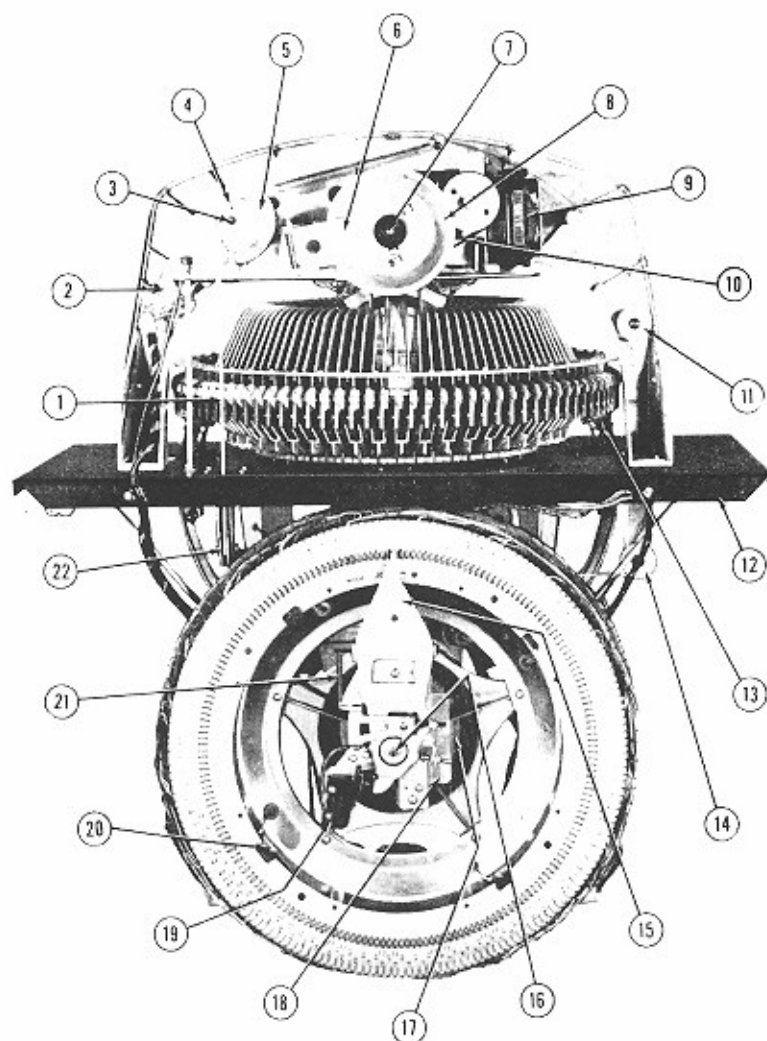

Fig. 45. MODEL 2000 RECORD CHANGER (REAR VIEW)
(5) Turntable Motor and Mounting Bracket Assembly (Fig. 45).
The turntable motor and mounting bracket assembly is mounted on the left rear of the top support casting assembly (Fig. 45). The motor operates on 115 volt, 60 cycle current. Power is supplied to the turntable motor when over-ride relay No. 2
The record clamp, lever and bracket assembly is mounted on the right of the back plate of the top support casting. The record clamp lever is pivoted on its mounting bracket to transfer action of the record clamp cam to the sliding shaft which operates the record clamps (Fig. 45). The record clamp cam, in turn, is actuated by the pulley and cable which is connected to the record clamp lever, operated by the main cam.
A plastic guide pulley and bracket assembly is mounted at the rear left side of the support casting (Fig. 45) to guide the cable linked to the tone arm brush assembly and the actuating arm of the transfer switch.
The chassis mounting plate is the supporting member of the record changer. The following items are considered integral parts of the chassis mounting plate; reinforcement plates, spring cups, hold-down clamps, and left arm spring brackets. Attached to the mounting plate to complete the assembly are three carrier rollers, the tone arm brush cable guide pulley and bracket assembly (See Fig. 45).
(9) Cancel Mechanism Assembly (Fig. 45).
(4) Over-ride Switches (Fig. 45).
(6) Carriage Switch (Fig. 45).
The carriage switch is mounted on the mounting bracket assembly as shown in Figure 45. It functions when the selector crank is intercepted, in its searching action, by one of the selector latch pins. The electrical function of the carriage switch will be discussed in detail in the following paragraph on operation.